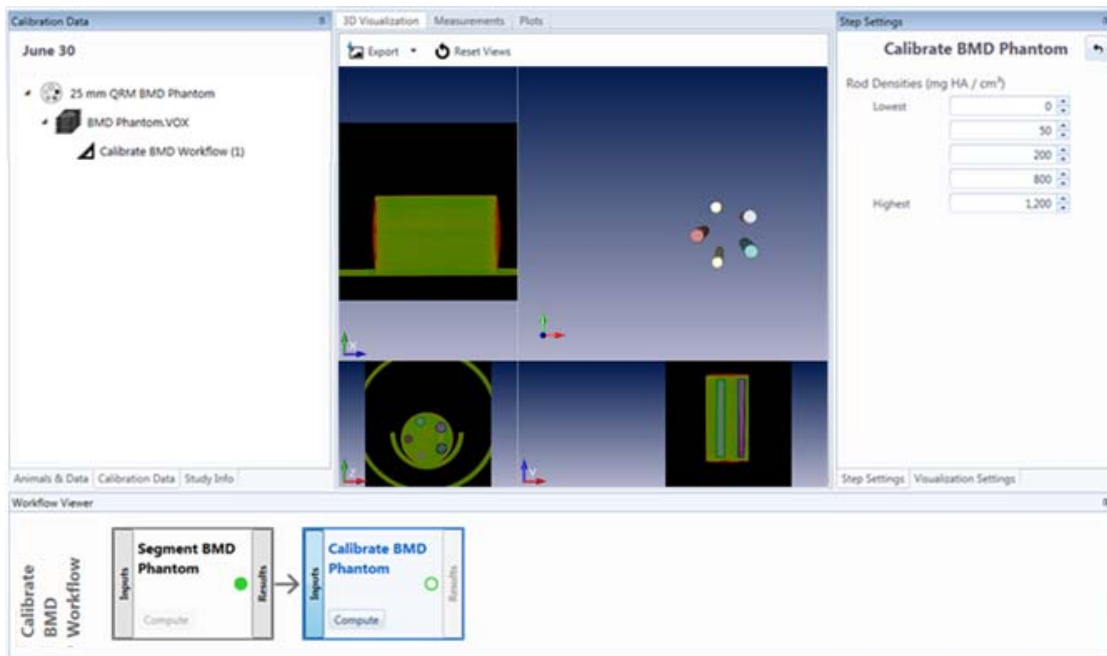

Figure 53. Segment BMD Phantom Step Results
- 2 Click the **Compute** button. The results of the Segment BMD Phantom step display on the 3D Visualization Tab. See Figure 53.